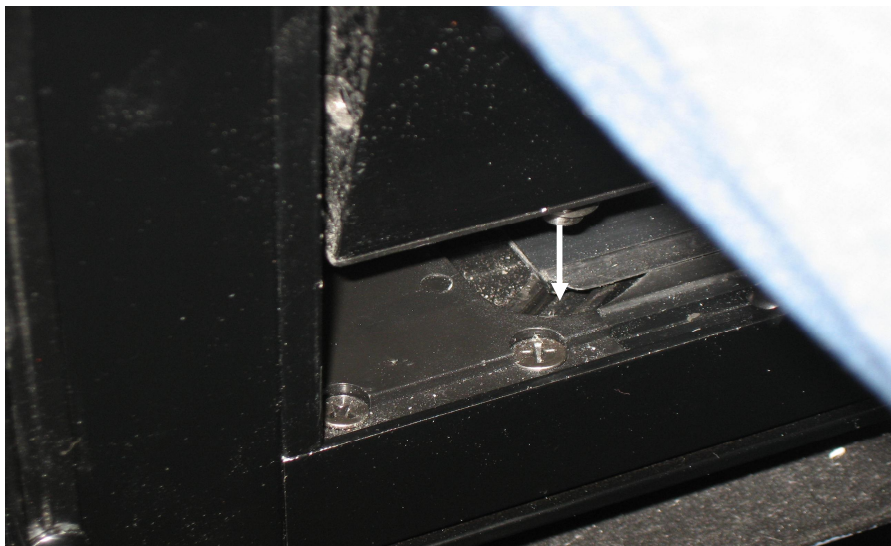

Figure 4
- 2) Position the left hand lower corner of the sash over the front cam block (Figure 4)